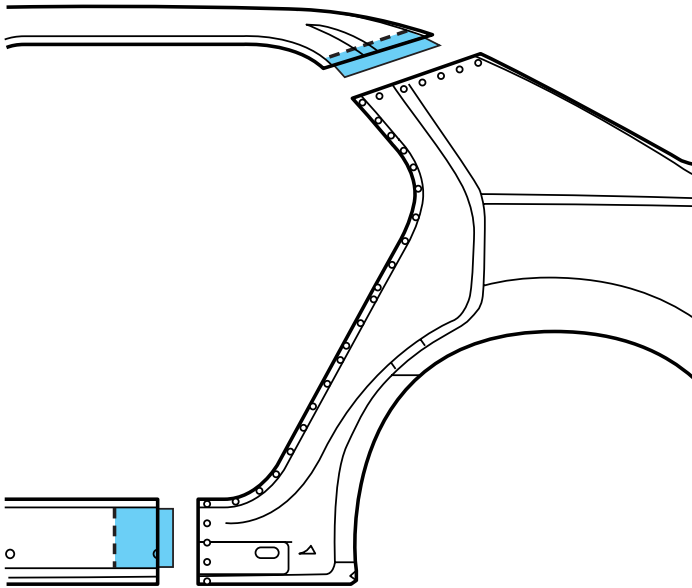

Fig. 1-9 — Outer Rear Pillar Preparation
1. Cut service part in corresponding locations to fit original cut lines. Leave a gap of one-and-one-half times the metal thickness of sectioning joint (Fig. 1-9).